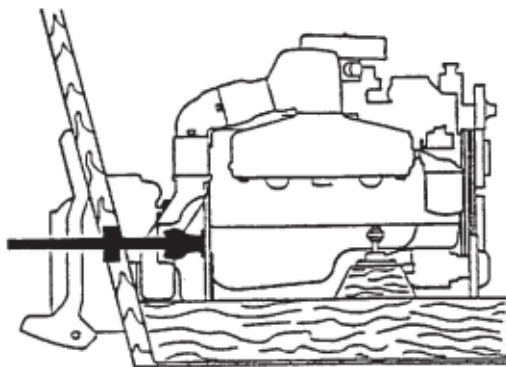

Fig. 1
2. With engine in No. 1 firing position, as determined above, the following valves may be adjusted (See Figure 1).
Most outdrives are coupled to the engine via an "engine coupler". This is an internally splined receptacle mounted in a rubber hub that aids in protecting the engine from outdrive impact and vibration. The coupler bolts to the flywheel and accepts the outdrive "Yoke Assembly". It is very important that these two items are centered exactly on the engine crankshaft center line (fig. 1). This will insure that there isn't any excessive force being applied in a lateral direction causing premature wearing of the coupler splines, yoke assemble splines or the coupler.